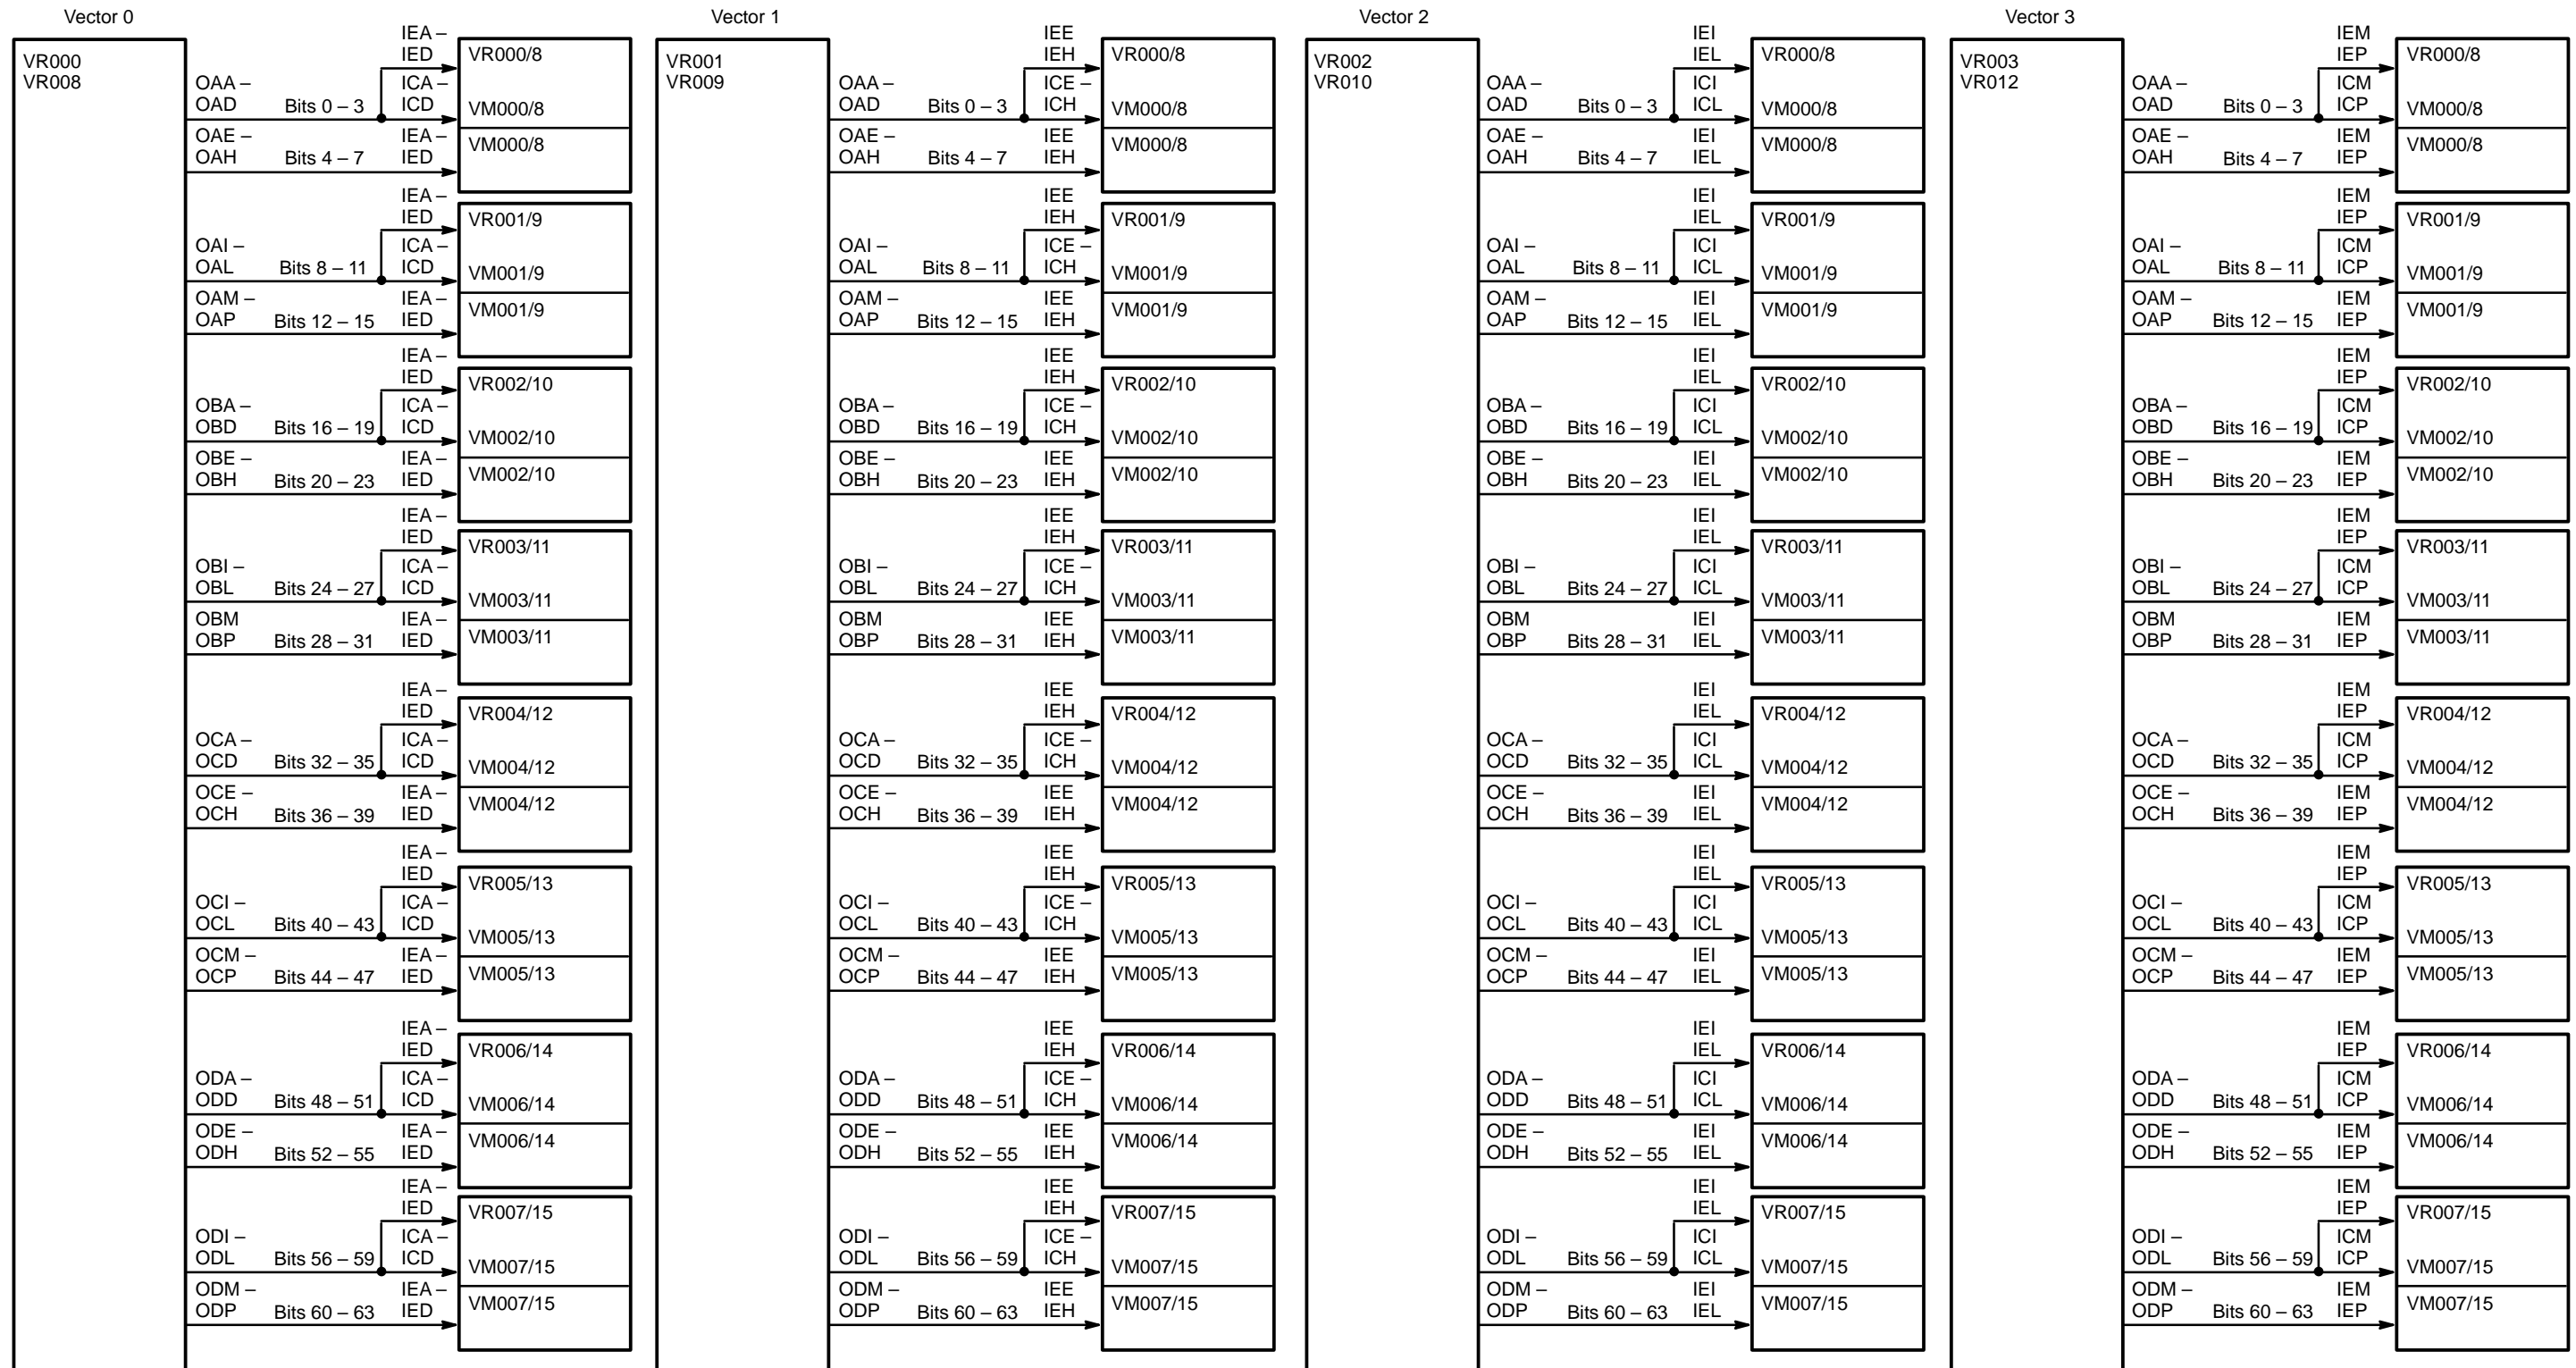

Figure 44. Vectors 0 through 3 Pipe 0/1 Read Data Path
- Figure 44 – vector register decode bit fanout (pipe 0 and 1 path 2)